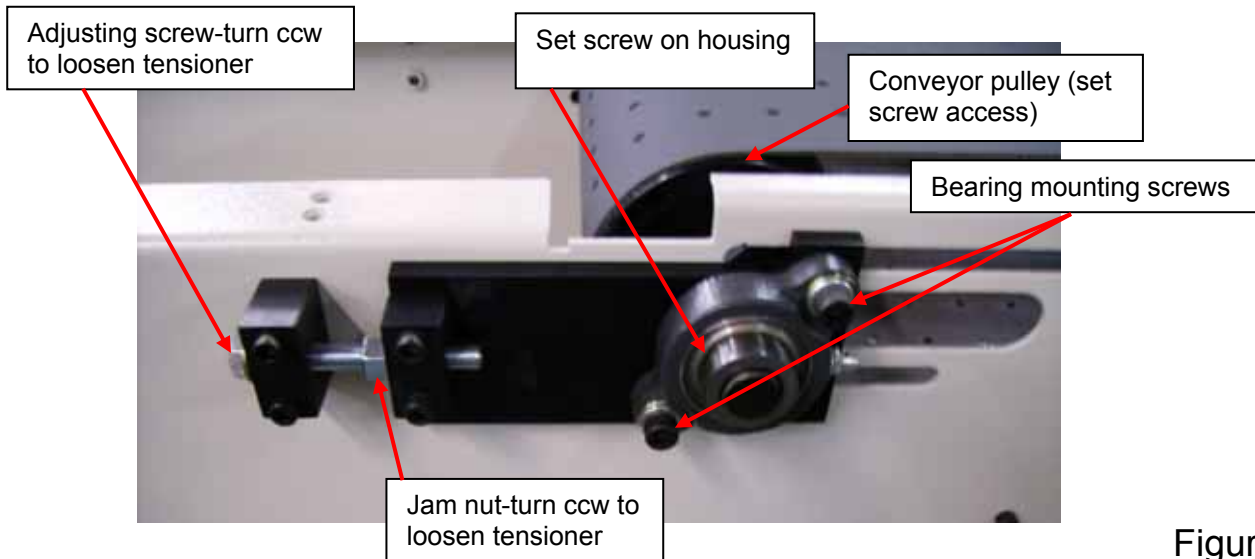

Figure IV-9
14. The vacuum transport belt's drive and shaft mounting is now accessible for disassembly. The first step is to release the belt tension. See figure IV-9.
- a. Loosen set screws on both bearing housings and on each end of the conveyor pulley. See figure IV-9.